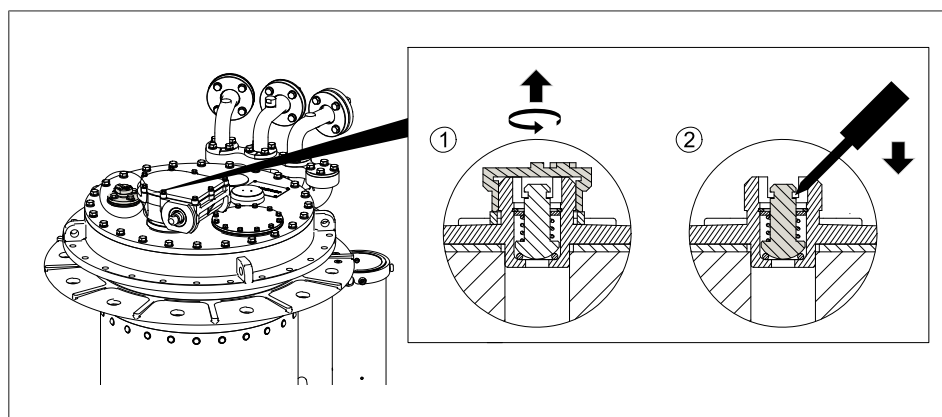

Figure 9-1 Bleeder valve exhaust operation
- b. Gently pry the valve stem with a screwdriver to exhaust until the oil overflows (see Figure 9-1).